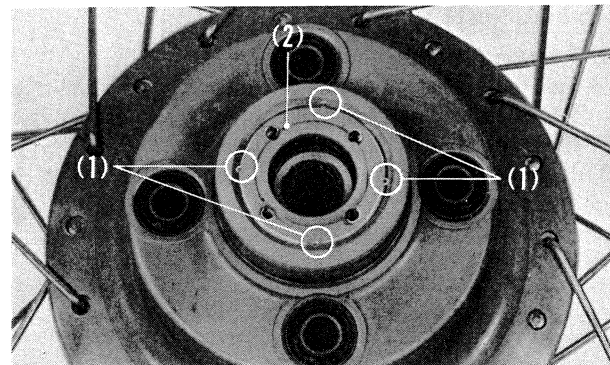

Fig. 5-43 (1) Stake these points with a punch
2. Install and tighten the bearing retainer with the bearing retainer wrench used at the time of removal. After tightening, stake at four points as shown in Fig. 5-43 using a punch.